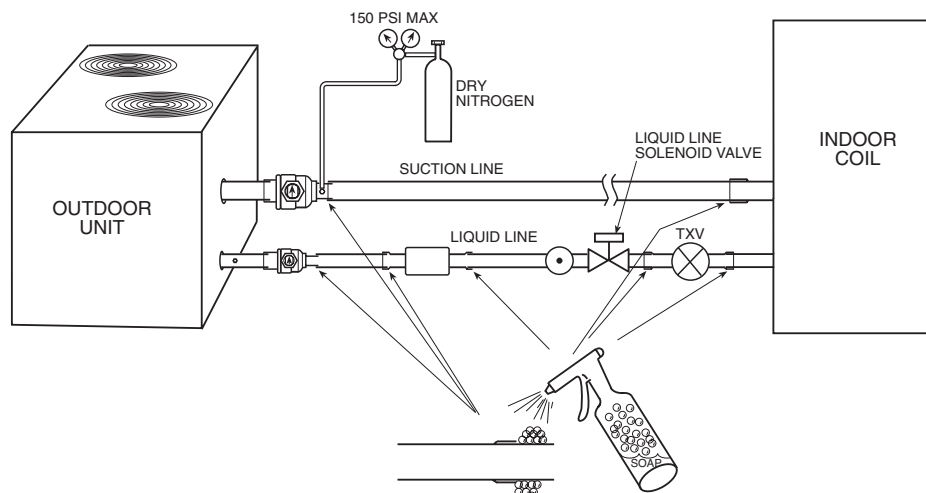

Fig. 16 — Recommended Process for Checking for Leaks
- b. Using soap bubbles and/or an electronic leak detector, test refrigerant piping, connections and joints, and the indoor coil. See Fig. 16.